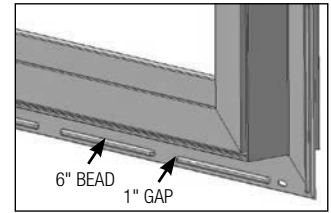

FIG. 13
- Use a discontinuous bead at the sill to allow for any drainage. Alternate using a 6" long bead with 1" gaps. (Fig. 13)